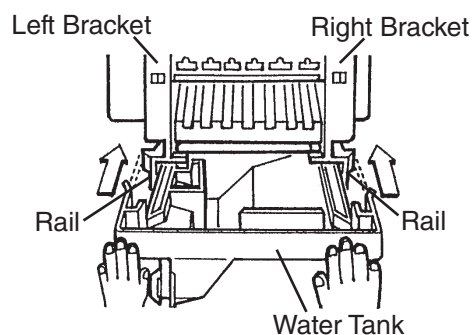

Fig. 45
14. Slide in the water tank along the rails at the bottom of the left and right brackets until it locks into place. See Fig. 45.